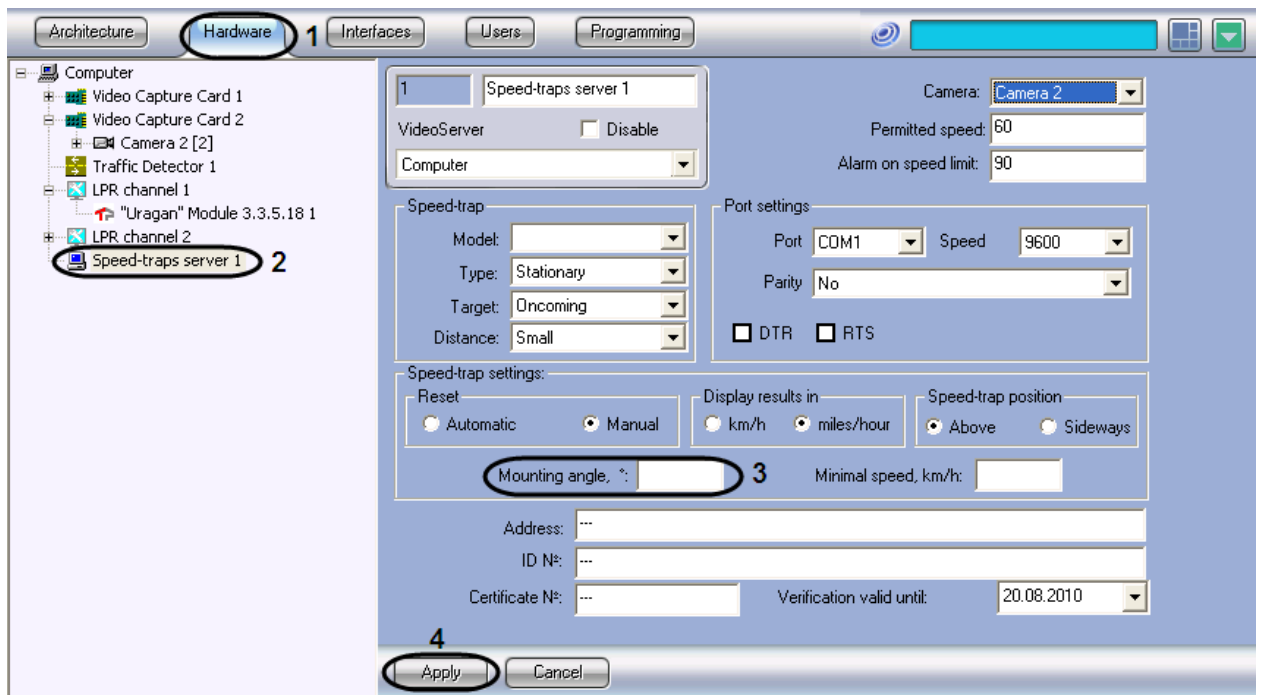

Fig. 7.3-11 Setting the speed-trap mounting angle
2. In the object tree on the left side of the Hardware tab, select the Speed-trap server object representing the Radar module to be set up. The settings panel of the selected object will open on the right side of the window (see Fig. 7.3-11).